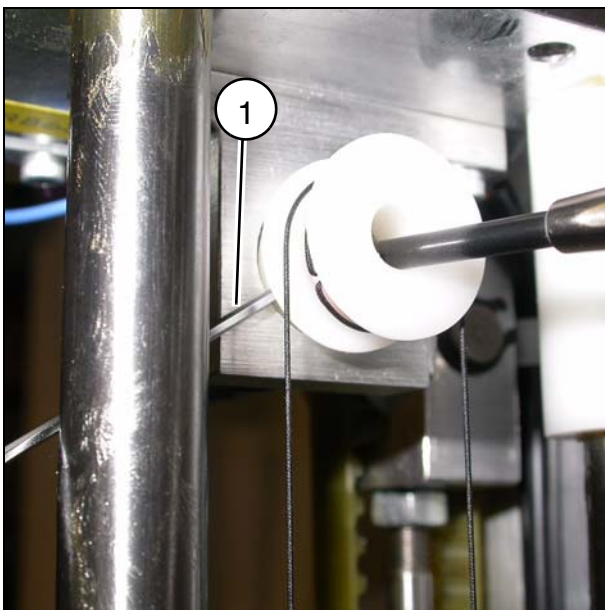
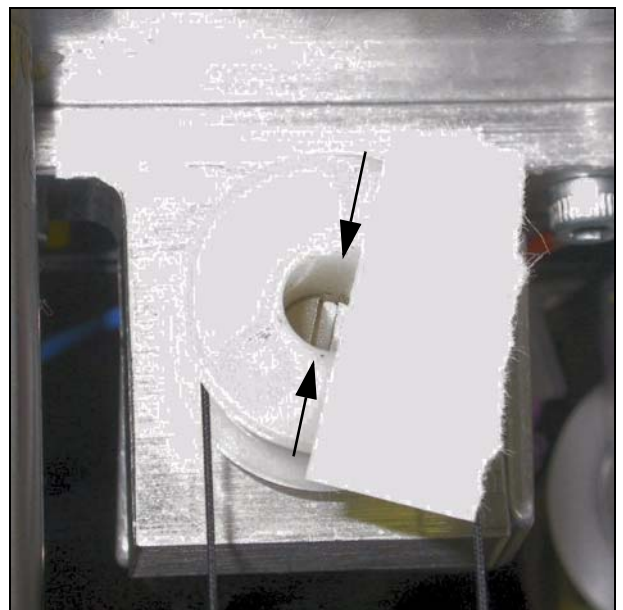

Fig. 6
Fig. 7
- Carefully loosen the securing radial grub screw of the Teflon pulley by means of the supplied Allen key 1.3 mm (1/Fig. 6); pull the pulley off the shaft of the potentiometer. The grub screw is tiny and can get lost easily. Loosen only, don't remove this screw. Having removed the pulley, adjust the grub screw so that it will enable a somewhat tight fitting of the pulley onto the shaft of the new potentiometer.
Adjust the measured resistance applying a screwdriver through the hub of the pulley to the groove on the end of the potentiometer shaft (Fig. 6). Start from a lower resistance value and turn the screwdriver clockwise until reaching $230\ \Omega \pm 20\ \Omega$. On the side of the pulley, mark the exact position of the groove (Fig. 7).